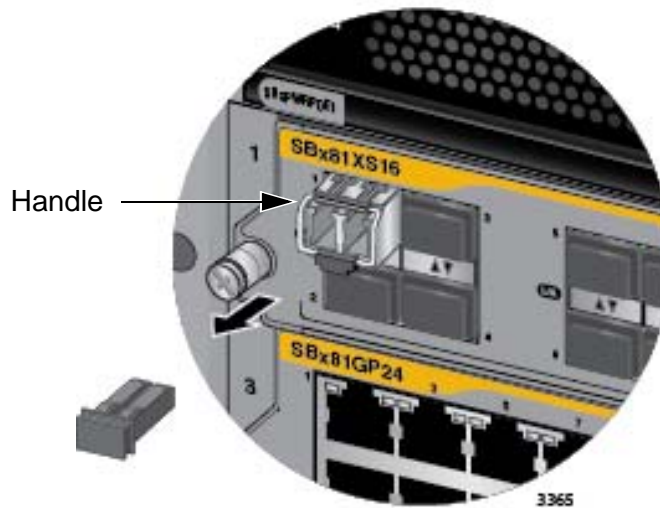

Figure 94. Verifying the Position of the Handle on the Transceiver in the AT-SBx81XS16 Line Card
4. Before connecting the cable, verify the position of the handle on the transceiver. If the transceiver is in an odd numbered slot, the handle should be in the upright position, as shown in Figure 94. If the transceiver is in an even numbered slot, the handle should be in the down position.